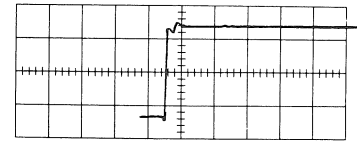

Fig. 7-3 Effect of defective driver-stage tubes, 0.2 μ sec/cm.
7.1.3.1 Driver Stage Check: Examine the waveform for a sharp dip immediately following the leading edge (See Fig 7-3), indicating possible defect in driver-stage tubes. Adjust line voltage to 105 v for 10-15 seconds, then to 125 v. If the "notch" appears to change amplitude with changing line voltage, try replacing the driver stage tubes (in early instruments, V1050 and V1052; in later instruments above s/n 9291, V1033 and V1043). Return line voltage to 117 v.
7.1.3.2 Input Stage Check: Reduce sweep speed to 0.5 μ sec/cm. Examine waveform for slope in first cm following leading edge (Fig. 7-3). Check for effect of line-voltage change on slope. If line-voltage affects slope, try replacing input amplifier tubes (6AW8's or 12BY7A's) with aged and checked tubes from same subgroup. If tubes are replaced, repeat Step 7.1.